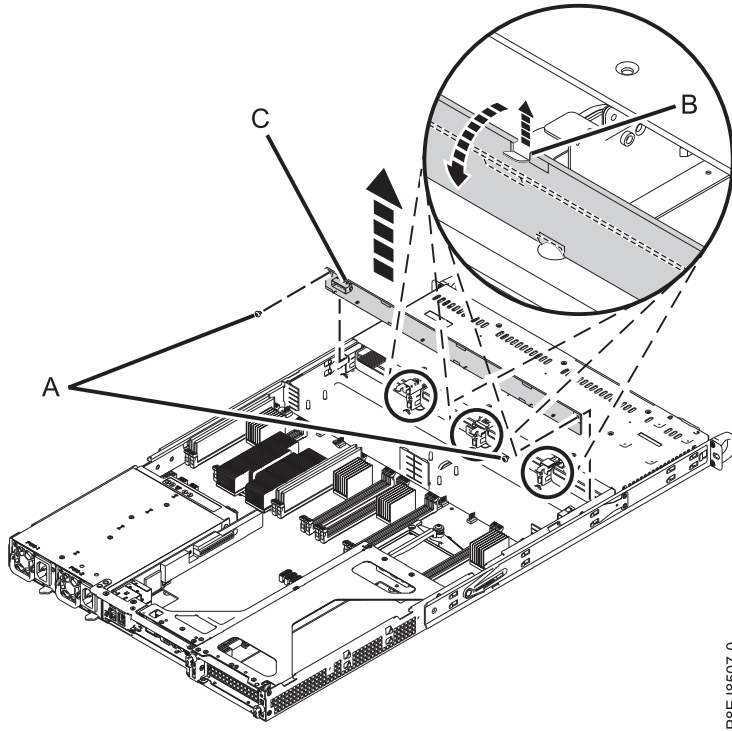

Figure 7. Removing the disk drive backplane and screws
5. Remove the disk drive backplane as shown in Figure 7 on page 11.